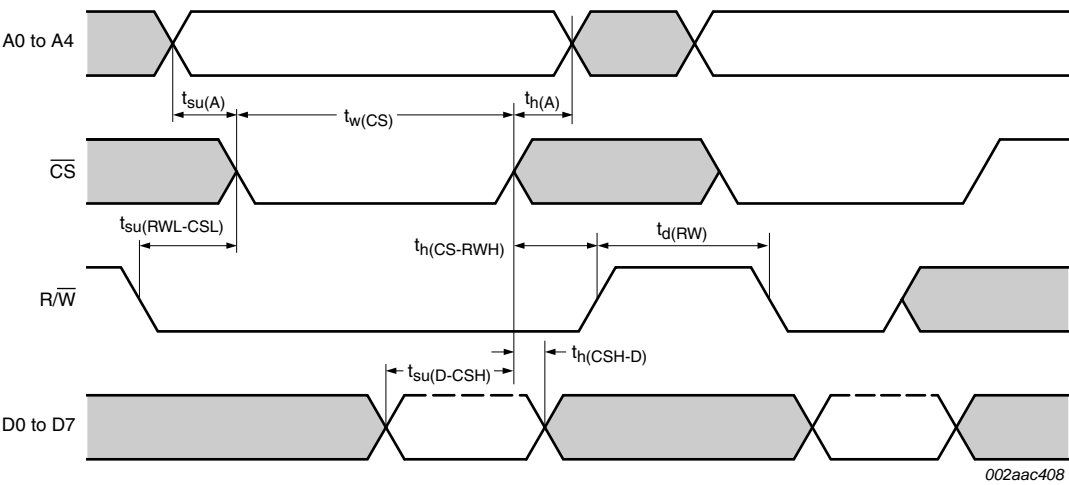

Fig 11. General write timing (68 mode)
(1) $\overline{\text{CS}}$ timing during a write cycle. See Figure 11.